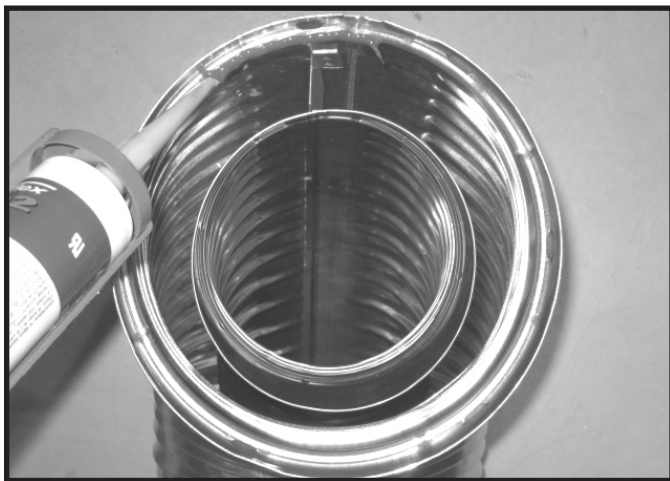

Figure 2.1 Silicone Sealant
- Apply a bead of silicone sealant (with a minimum of 300 °F continuous exposure rating) inside the female outer pipe joint prior to joining sections. See Figure 2.1.